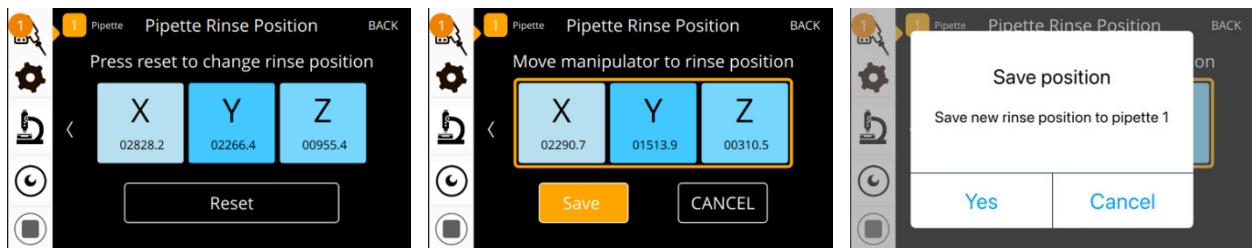

Figure 15. Pipette Rinse Position.
9. Set the *Pipette Rinse Position* by first pressing *Reset* button (Figure 15). Move the pipette tip to the *Rinse Position* and press *Save* button. Confirm with pop-up dialog.